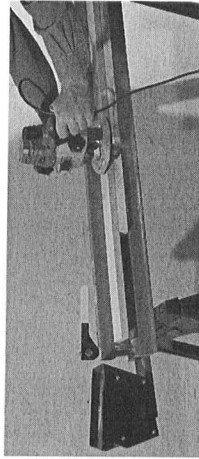

Figure 6.
- Now trim off the last 1/8" with you router as seen in figure 6. This yields a true finished edge board on the first side.